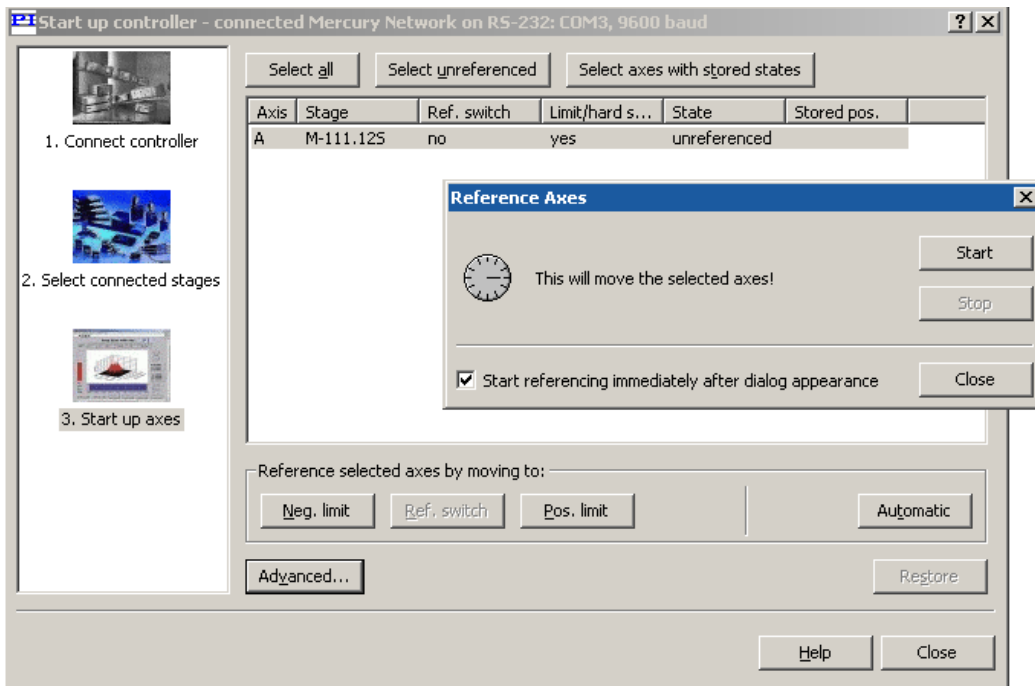

Fig. 4: PIMikroMove™ Start up controller, Step 3: Reference the axis
- 8 Make sure that the controller knows the absolute position of each axis (i.e. that the axis is referenced). If the software did not prompt for referencing (as in Fig. 4), it may be assuming that the current position is 0. Arrange for the axis to move toward and stop at a limit or reference switch. See the respective software or commands manual for details.